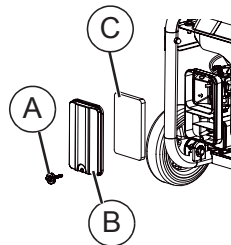

Figure 4-3. Air Filter Assembly
1. See Figure 4-3. Turn knob (A) and remove air filter cover (B).
2. Wash in soapy water. Squeeze filter (C) dry in clean cloth (DO NOT TWIST).
- NOTE:** To order a new air filter, contact the nearest authorized service center at +1 (855) 801-0798.